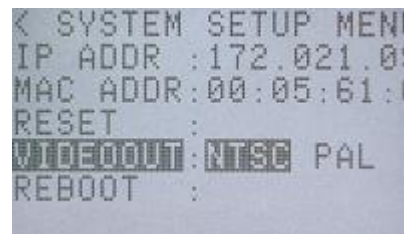

Figure 5-29 VIDEOOUT
- 2) Use the arrows   to select "VIDEOOUT" from the SYSTEM SETUP MENU (Figure 5-29).